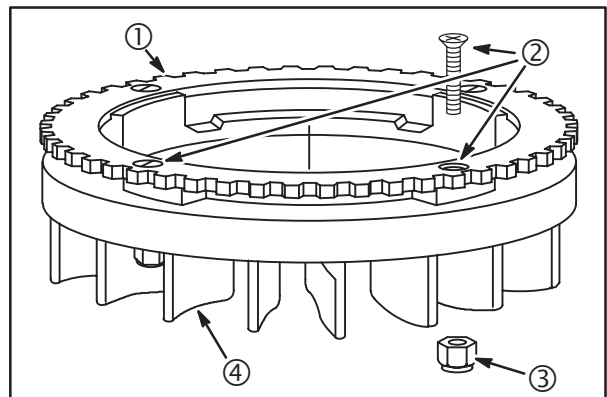

Fig. 48
1. Mark center of rivets holding the ring gear (1) to flywheel (4), **Fig. 48**, with a center punch.
4. Attach new gear to flywheel using four screws (2) and lock nuts (3) provided with gear. Tighten nuts and screws securely.